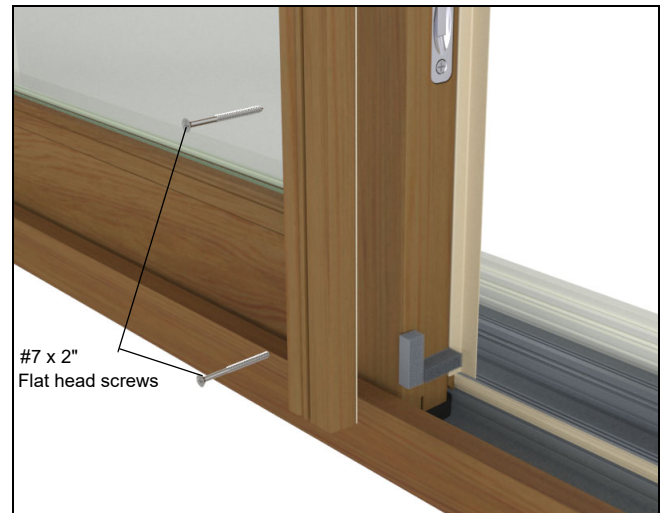

Figure 152
5. **Bi-parting units:** Fasten the mull base to the passive panel with # 7 x 2" flat head screws. See figure 152.